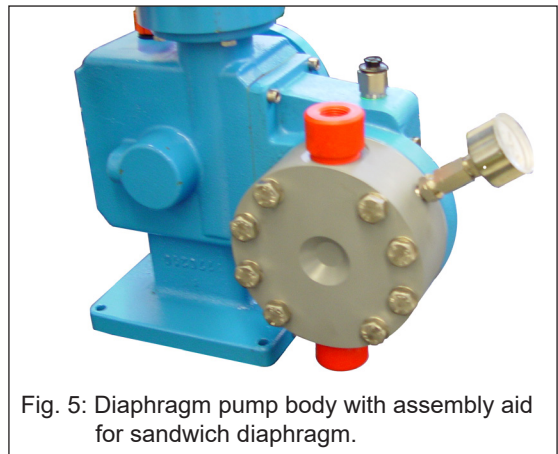

Fig. 5: Diaphragm pump body with assembly aid for sandwich diaphragm.
The plastic version of the diaphragm pump body is formed on the outside in such a way that it can be used as an assembly aid (see fig. 5).
10. Turn the diaphragm pump body (526) around and, without tilting it, place it with the fluid side on the diaphragm drive housing (501) and tighten the screws (536) evenly by hand. The assembly aid side is now on the outside again (see fig. 5).